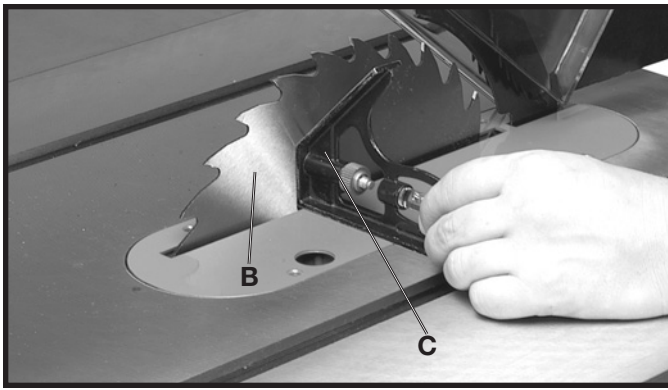
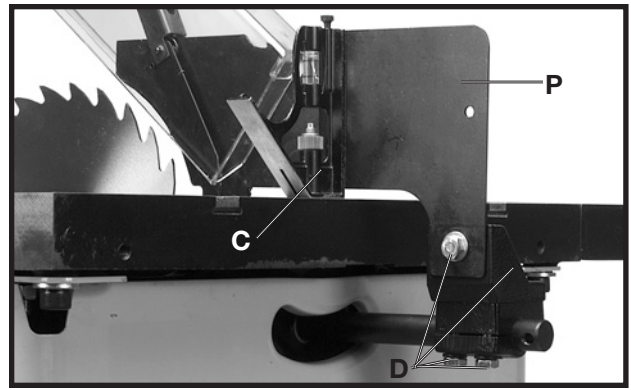

Fig. 28
Fig. 29
splitter (P) is aligned with the saw blade (B). Using a square (C) Figs. 28 and 29, make certain saw blade (B) Fig. 28, and splitter (P) Fig. 29, are 90 degrees to the table surface. Once you are certain the splitter is aligned to the saw blade and table, tighten all splitter mounting hardware (D) Fig. 29 and recheck alignment.